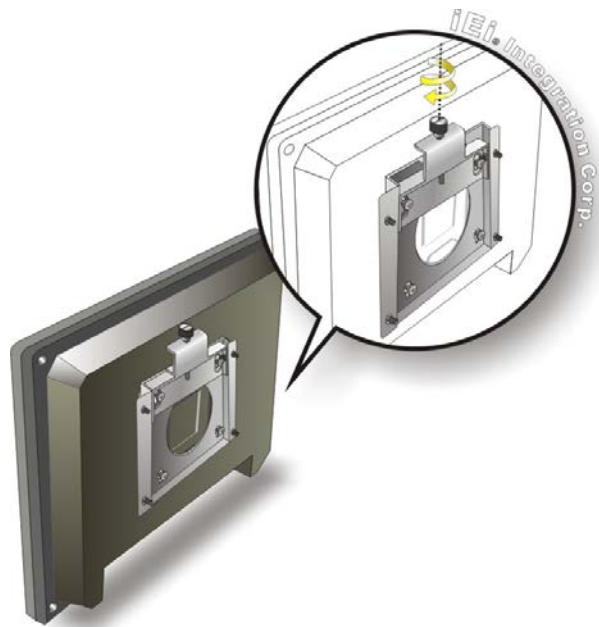

Figure 4-18: Secure the Panel PC
Step 9: Secure the panel PC by fastening the captive screw of the wall-mounting bracket. (**Figure 4-18**).